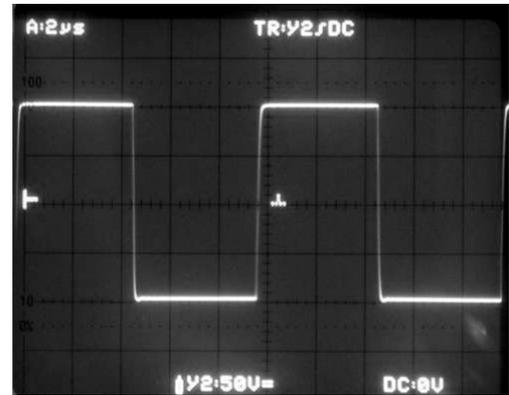

Figure 4. 200V_{pp} 100kHz square wave
- Square wave response (Fig. 4, 5, 6)